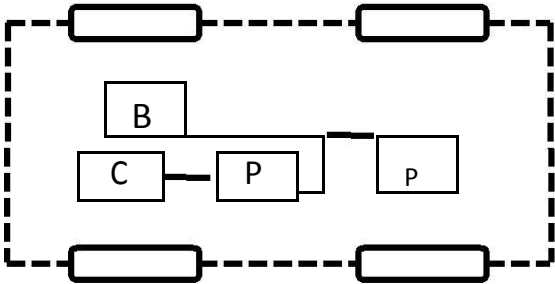

Figure 4e: EV configuration with battery and capacitors sources [1]
- **Configuration 5:** In fuel cell and battery combination, the battery is selected to provide high specific power and high-energy receptivity. In this configuration a battery and supercapacitor combination is used as an energy source, **Figure 4e**. The battery used in this configuration is a high energy density device whereas the supercapacitor provides high specific power and energy receptivity. Usually, the supercapacitors are of relatively low voltage